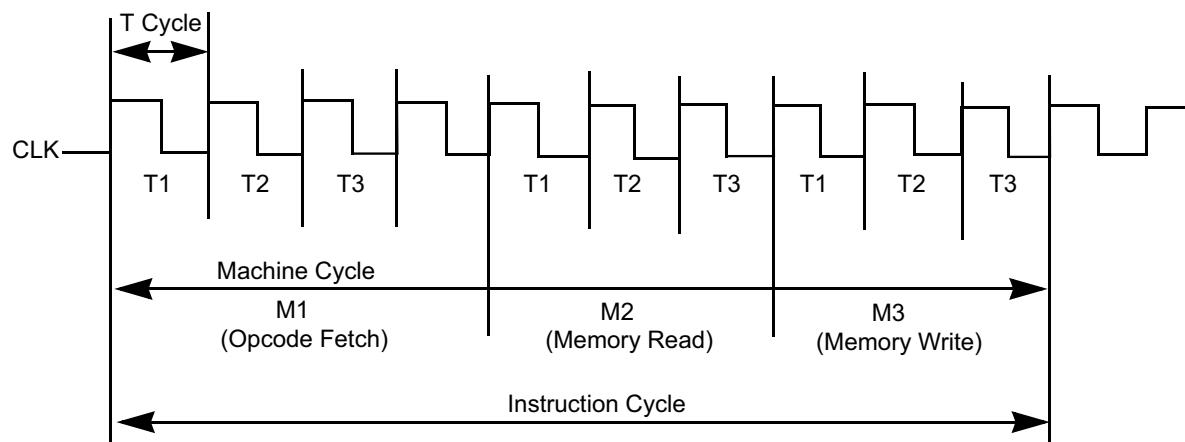

Figure 4. Basic CPU Timing Example
All instructions are a series of basic operations. Each of these operations can take from three to six clock periods to complete, or they can be lengthened to synchronize the CPU to the speed of external devices. These clock periods are referred to as time (T) cycles, and the operations are referred to as machine (M) cycles. Figure 4 shows how a typical instruction is a series of specific M and T cycles. In Figure 4, this instruction consists of the three machine cycles M1, M2, and M3. The first machine cycle of any instruction is a fetch cycle that is four, five, or six T cycles long (unless lengthened by the WAIT signal, which is described in the next section). The fetch cycle (M1) is used to fetch the op code of the next instruction to be executed. Subsequent machine cycles move data between the CPU and memory or I/O devices, and they can feature anywhere from three to five T cycles (again, they can be lengthened by wait states to synchronize external devices to the CPU). The following paragraphs describe the timing which occurs within any of the basic machine cycles.